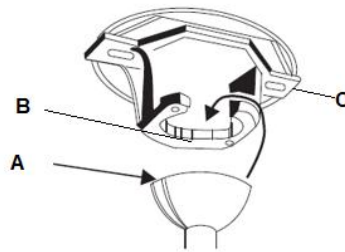

Fig. 4
Lift the fan assembly onto the mounting bracket. Ensure the Key slot (A) of the hanger ball is positioned on the Key Pin (B) of the mounting bracket (C) to prevent the fan from rotating when in operation. (Fig.4)